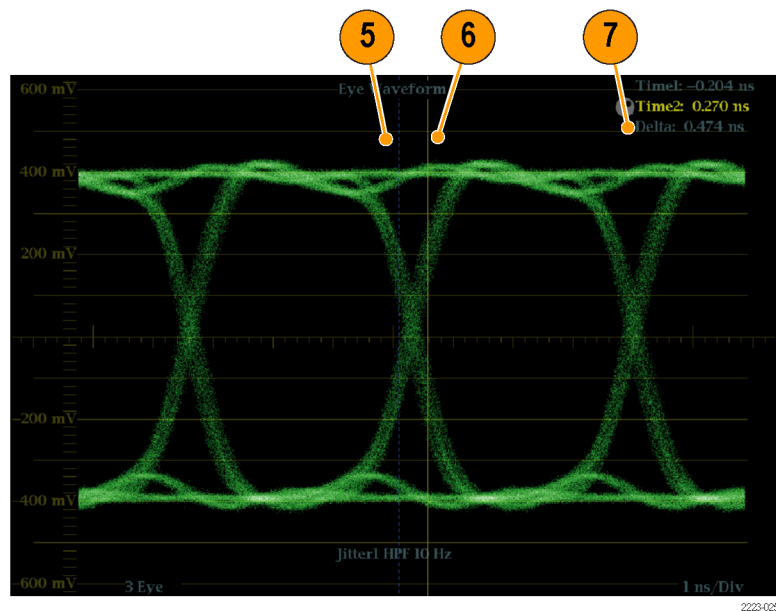

Figure 54: Measuring rise time using variable gain in Eye
5. Position the first timing cursor at the crossing of the rising edge of the Eye waveform and the graticule line two divisions above the bottom of the waveform. (See Figure 54.)
6. Position the second time cursor at the crossing of the rising edge of the Eye waveform and the graticule line two divisions below the top of the waveform. (See Figure 54.)
7. Note the 20 – 80% rise time measurement displayed in the Delta time readout. (See Figure 54.)